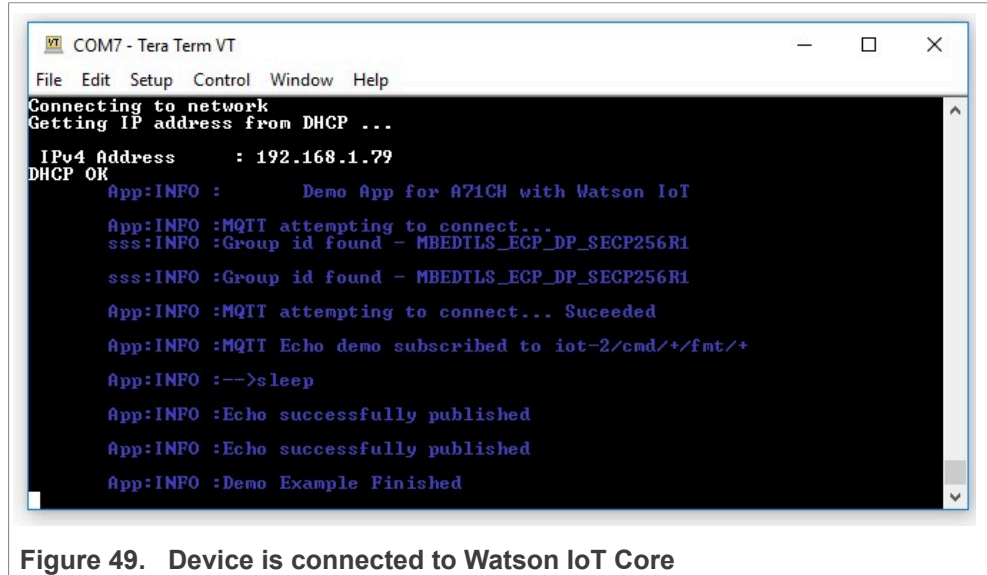

Figure 49. Device is connected to Watson IoT Core
- a. Checking the TeraTerm logs as shown in Figure 49